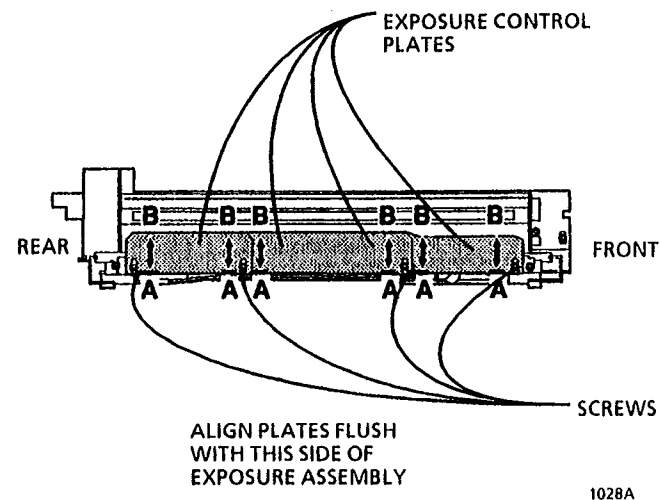

Figure 3. Aligning the Exposure Plates
3. (Figure 3): Loosen the screws and align the exposure plates flush with the right side of the exposure assembly. Retighten the screws.
4. (Figure 3) Perform the Check again. If necessary, move the exposure plates until both the front and rear line pairs reproduce equally.